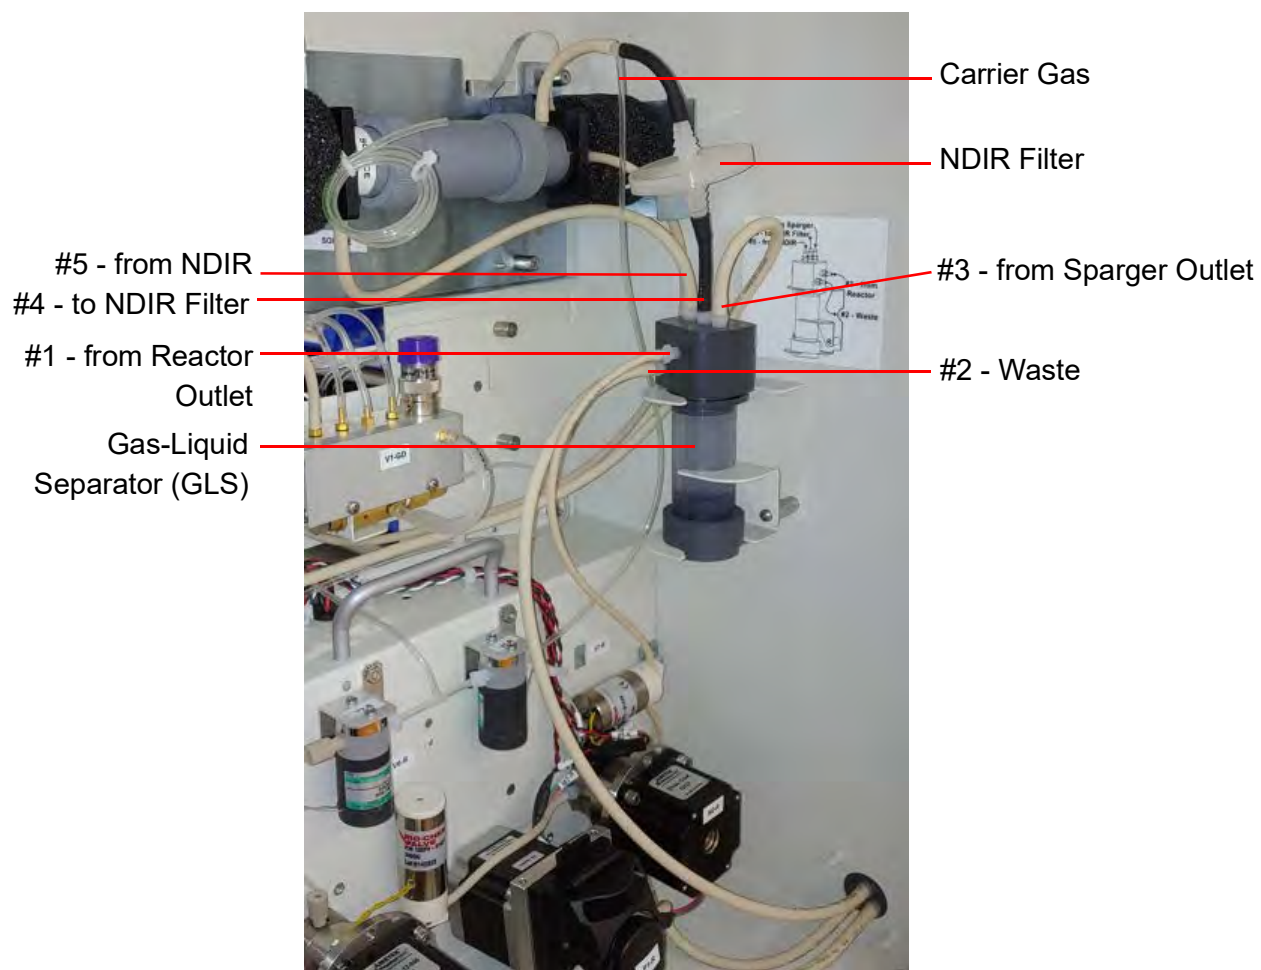
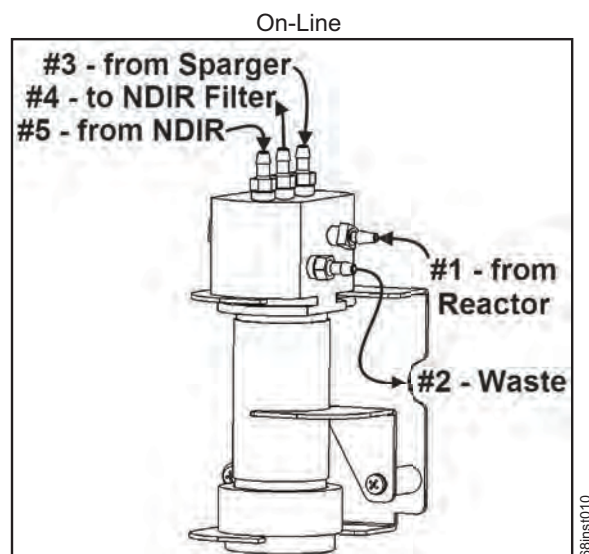

Figure 6: The Gas-Liquid Separator
Figure 7: Gas-Liquid Separator (GLS), Label
2. Locate the Gas-Liquid Separator. See Figure 6: The Gas-Liquid Separator on page 76.
9. Reconnect the tubing to the correct barbs. See Figure 6 on page 76 and Figure 7 on page 77.